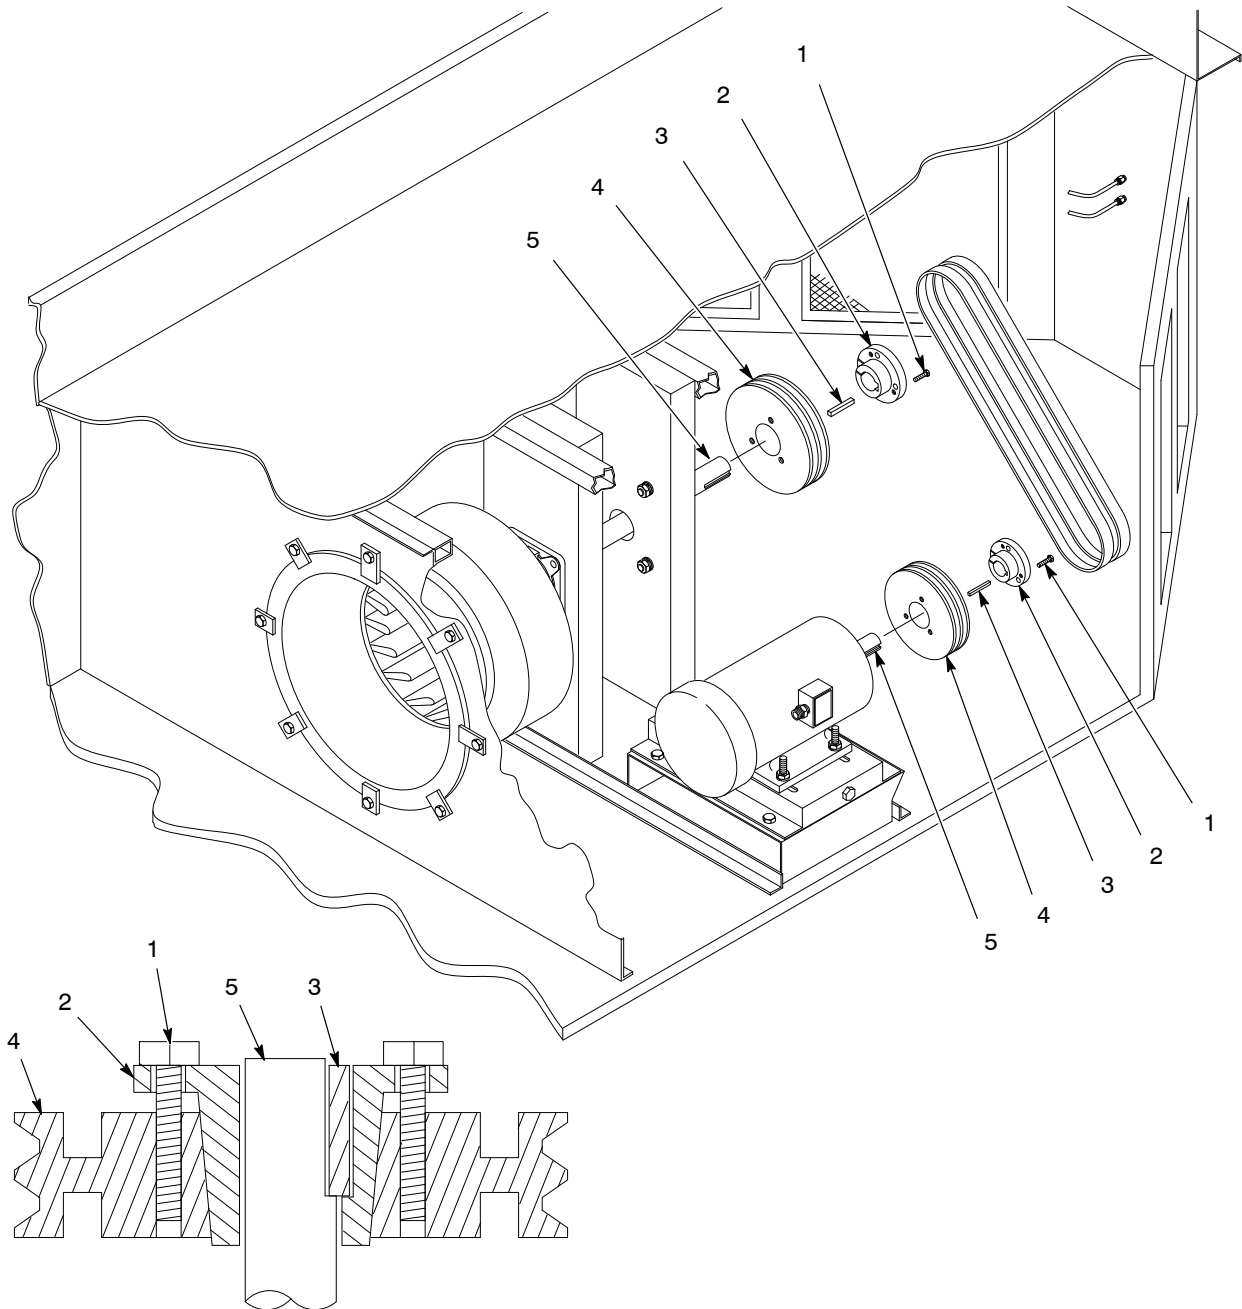

Figure 7-8 Sheave Replacement
2. See Figure 7-8. Unscrew the three cap screws (1) and remove them from the unthreaded holes in the bushing (2). Thread the screws through the threaded holes in the bushing until they bottom out on the sheave (4) hub.